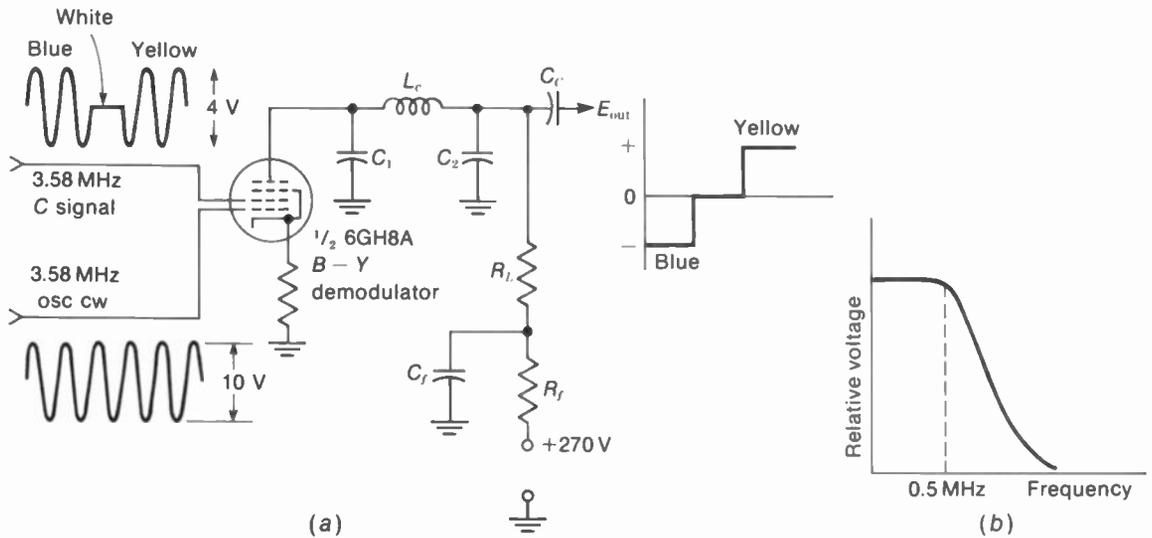

FIGURE 17-19 (a) CIRCUIT WITH PENTODE TUBE FOR B - Y DEMODULATOR; (b) VIDEO-FREQUENCY RESPONSE FOR DETECTED OUTPUT.
**Basic demodulator requirements.** Figure 17-19 shows the circuit of a B - Y demodulator using a pentode tube. The same circuit can be used for R - Y, X, or Z demodulators, the only difference being the phase of the oscillator cw input. Also, the circuit can use a triode tube,
For the pentode in Fig. 17-19, the oscillator cw is applied to grid 1. This signal at the control grid can be considered as keying on or off the conduction of plate current ( $I_b$ ) for the chroma signal applied to grid 2. Note that the B - Y phase of the oscillator cw is close to the phase of blue in the chroma signal but opposite from yellow. Maximum  $I_b$  flows for blue, then, as both signals have the same phase. Minimum  $I_b$  flows for yellow. Therefore, the demodulator has its maximum peak-to-peak value for hues on the axis of blue and yellow. Chroma signal of the quadrature phase has little effect on the output.